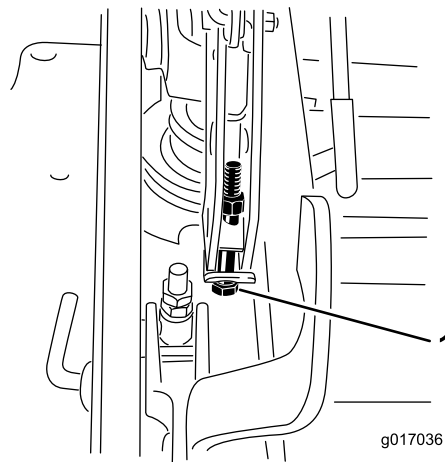

Figure 90
- If the deck is too low, tighten the single-point adjustment bolt by rotating it clockwise. If the deck is too high, loosen the single point adjustment bolt by rotating it counterclockwise (Figure 90).
- Tighten the 2 bolts at the bottom of the height-of-cut plate (Figure 90).